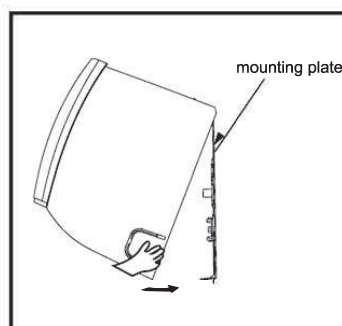

Fig. 8
- Hang the unit onto mounting plate (Fig. 8).